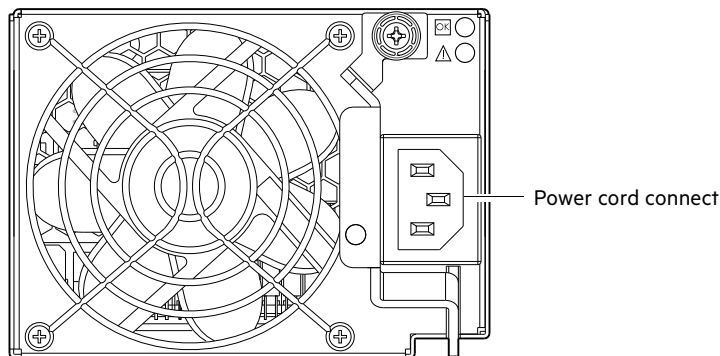

Figure 12 AC power supply
2. Plug the power cord into the power cord connector on the back of the drive enclosure (see Figure 12). Plug the other end of the power cord into the rack power source. Wait several seconds to allow the disks to spin up.
3. Plug the power cord into the power cord connector on the back of the controller enclosure (see Figure 12). Plug the other end of the power cord into the rack power source.